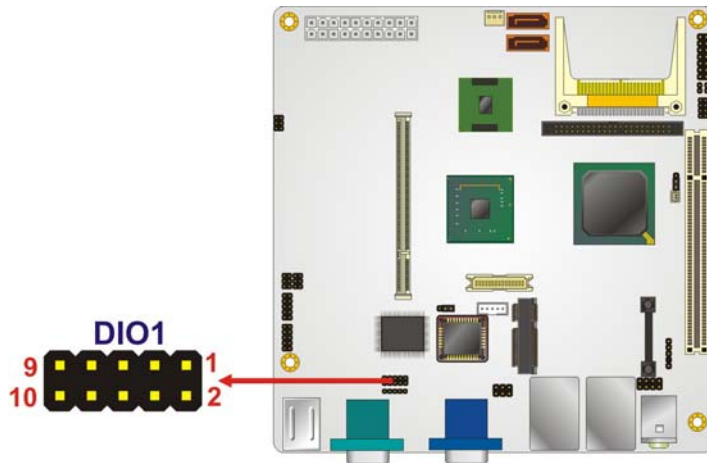

Figure 4-5: Digital I/O Connector Locations
- CN Location:** See **Figure 4-5**